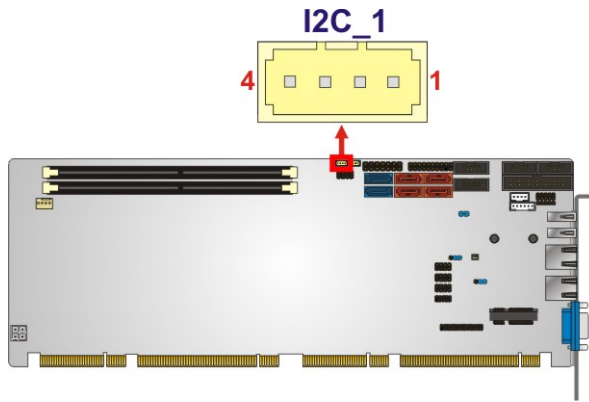

Figure 3-10: I2C Connector Location
- CN Location:** See **Figure 3-10**